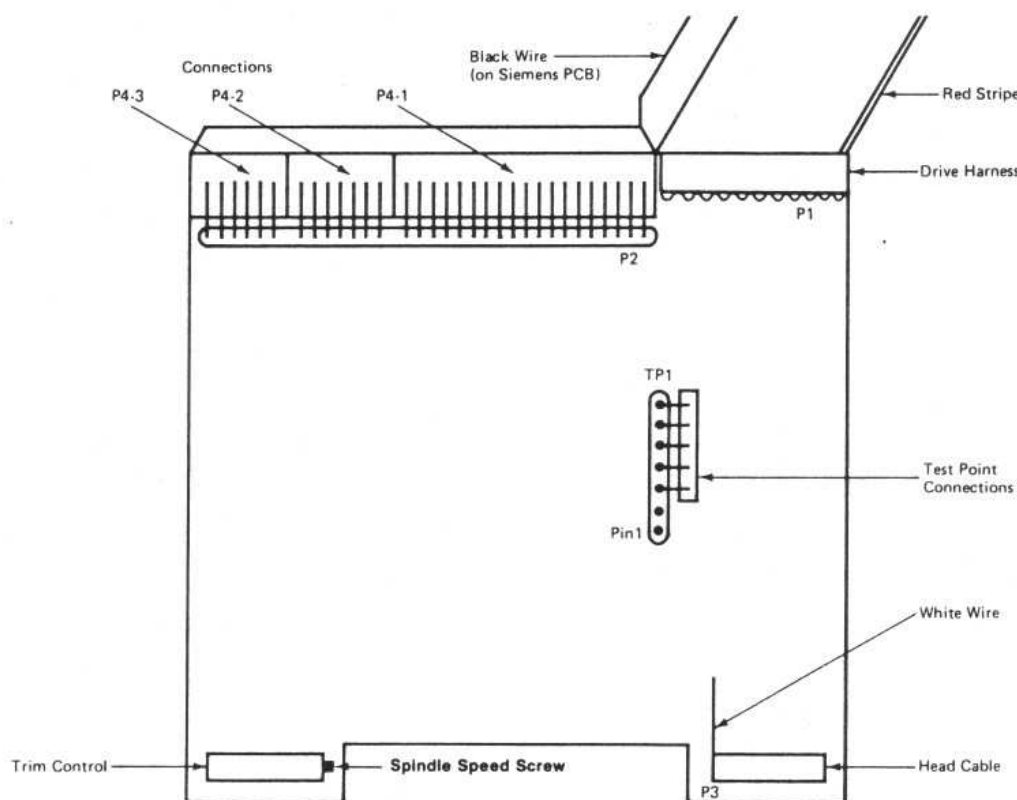

FIGURE 6-15. DISK DRIVE PCB
- 6.4.1.2 Check the P4-1, P4-2, and P4-3 connectors at the P2 connection on the rear of the PCB. See Figure 6-15 for connector order.
- 6.4.1.3 Connect the drive cable to the P1 connection in the right rear corner of the PC board. The red stripe on the drive cable must be to technician's right. (See Figure 6-15.)
- 6.4.2.3 Locate the trim control at position R23 on the drive PC board. (See Figure 6-15.) The small gold screw on the trim control is the spindle speed adjustment screw.
- 6.4.2.11 Locate the trim control at position R23 on the PC board. (See Figure 6-15.) The small gold screw on the trim control is the spindle speed adjustment screw.
- 6.4.5.1 Check the P4-1, P4-2, and P4-3 connectors at the P2 connection on the rear of the drive PC board. See Figure 6-15 for connector order.